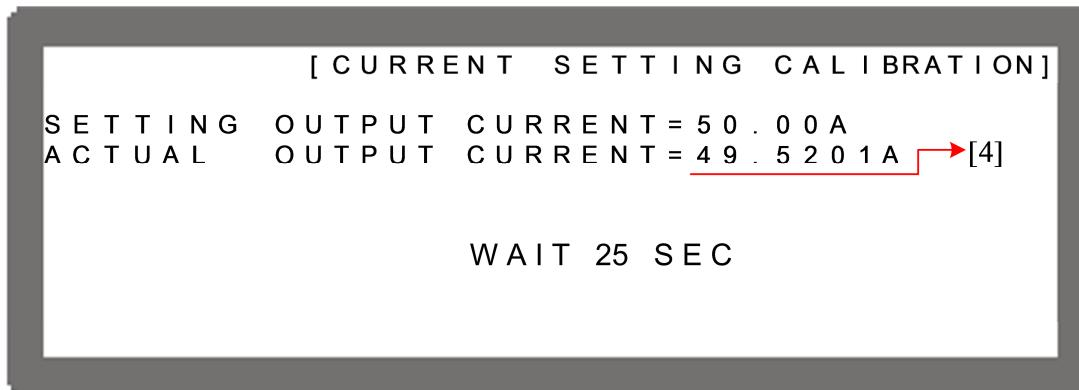

Figure 3-115
10. Press “” to perform the 50A calibration. The system will automatically set the output current to 50.00A. Once the reading is done, the cursor will stop at position [4] as shown in Figure 3-115. Input the current (enter 4 digits after the decimal point) read by the Current Shunt (DVM) and press “” to confirm.